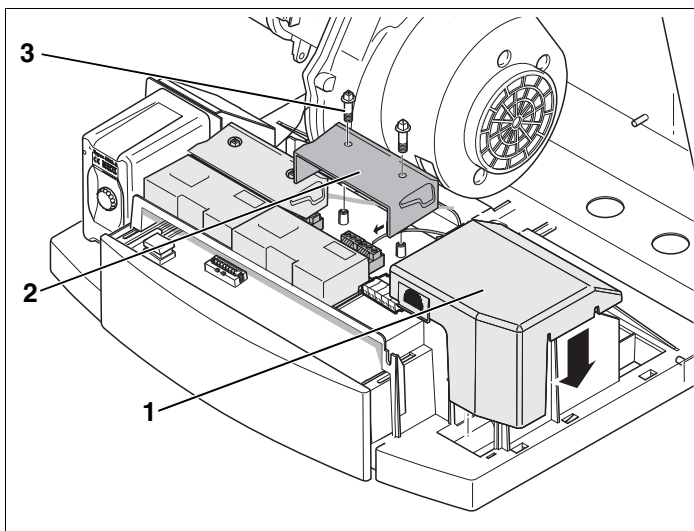

Fig. 4 Close terminal cover
- Replace cover on terminal box (Fig. 4, **Item 1**).
- Replace terminal cover on function module (Fig. 4, **Item 2**).
- Tighten the Phillips screws (Fig. 4, **Item 3**) either with a Phillips screwdriver or with a bleeder key.